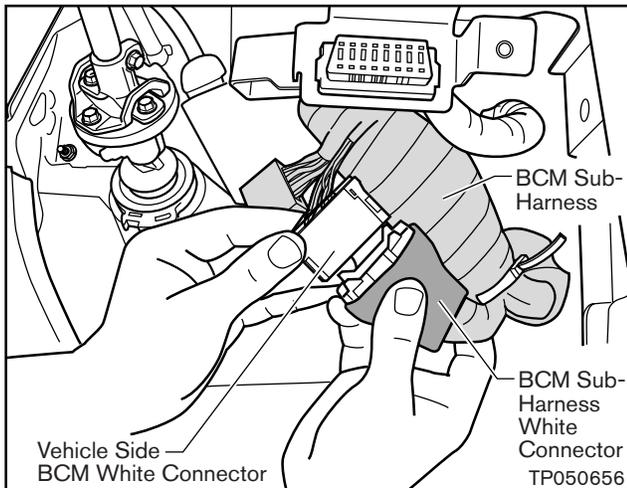

Figure 8a
- Connect the White Connector to the vehicle-side harness white connector (see Figure 8a).